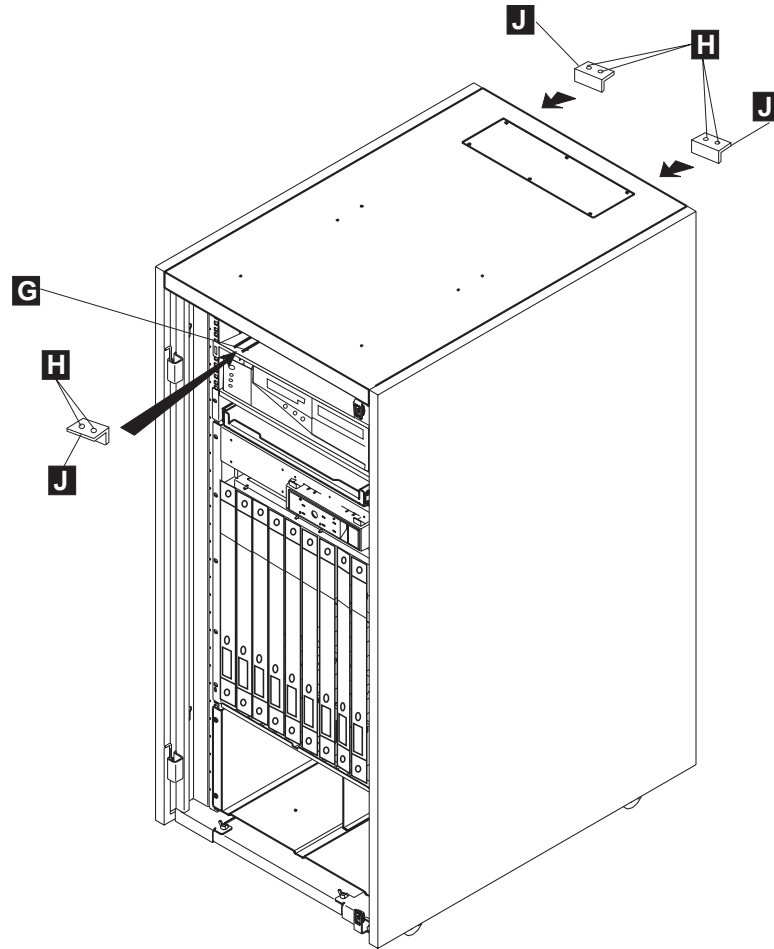

Figure 1-26. Installing the Retainers to Secure the NAS in a 29 U rack
7. ____ From the rear of the rack. Push the NAS against the retainer previously installed. Install two retainers **J** under the upper plate **G** in order to maintain the NAS. Secure them using screws **H** (refer to Figure 1-26 on page 1-21).